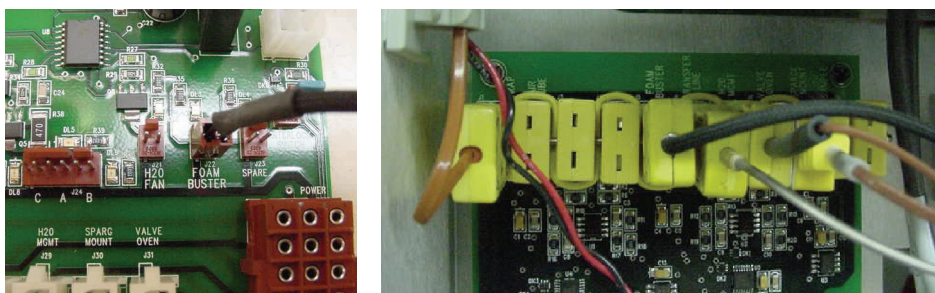

Figure 8.15. Plugging in the Foam Buster heater thermocouple wires
9. Plug the Foam Buster heater thermocouple wires into the I/O board. Insert the power plug into J22 and the thermocouple plug into J5 (Figure 8.15).